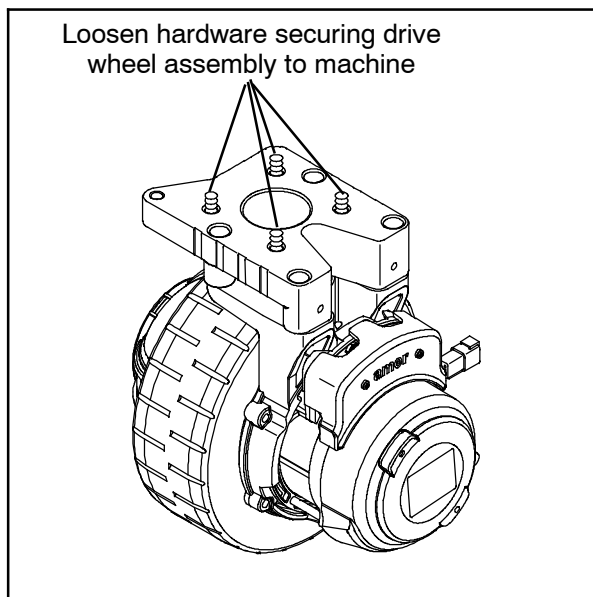

FIG. 7
3. Loosen the hardware securing the drive wheel assembly to the machine and remove the drive wheel assembly from the machine. (Fig. 7)